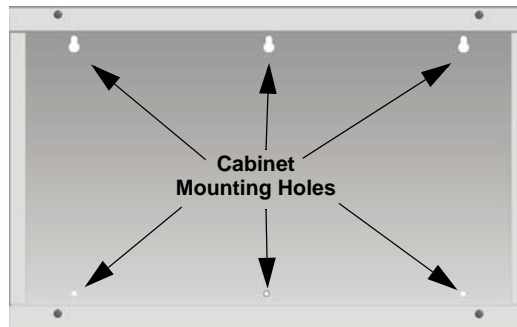

Figure 1.1 AB-55 Cabinet Mounting Holes
1. Mount the accessory cabinet. See Figure 1.1 for the four cabinet mounting holes.